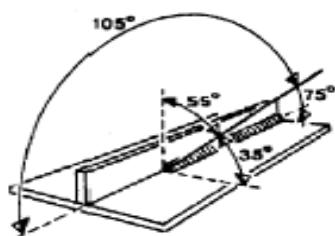

Fig. 9
8. Once the arc is ignited, tilt the electrode wire forward at an angle of approximately 35° (fig. 9).